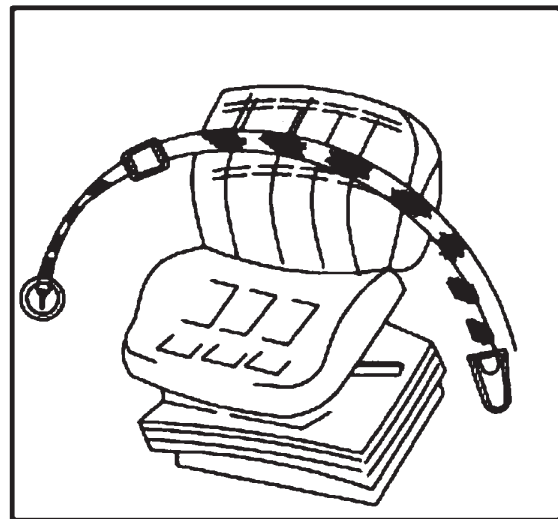

Fig. 2-2
- If a seat belt is installed, always wear your seat belt-adjusted snugly except when operating with a folded down safety frame or if the safety frame has been removed (Fig. 2-2)
- Check the seat belt for damage. A damaged seat belt must be replaced (Fig. 2-2).
Safety belt. It must always be mounted in protection position (Fig.2-2). A seat belt is recommended according to law requirements on the respective market when ROPS is erected.